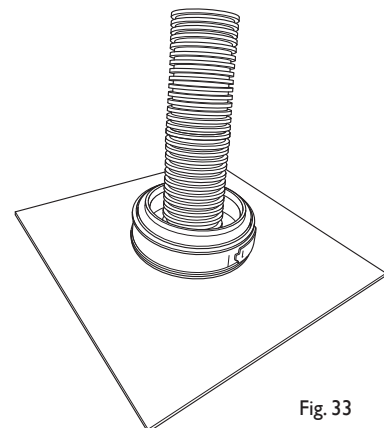

Fig. 33
16. In a similar way to fitting the boiler adaptor fit the air duct clamp to the air duct. This will prevent the duct falling back into the chimney (Fig. 33).